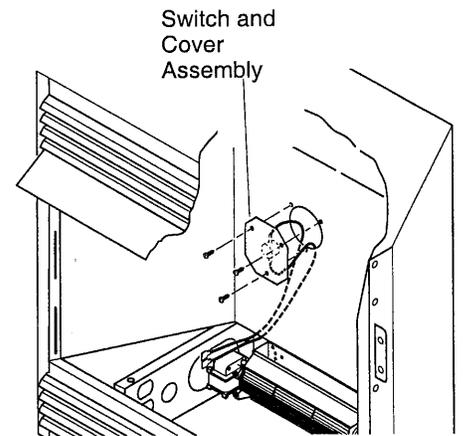

Figure 16 - Installing Switch and Cover Assembly
6. Mount the supplied thermostatic switch and cover assembly into firebox wrapper rear wall. Do this by feeding terminal ends of wire harness into the hole. Allow wires to fall to bottom of firebox cavity (see Figure 16).
7. Using three screws from step 5, attach switch and cover assembly to firebox wrapper rear wall. Tighten screws firmly (see Figure 16).